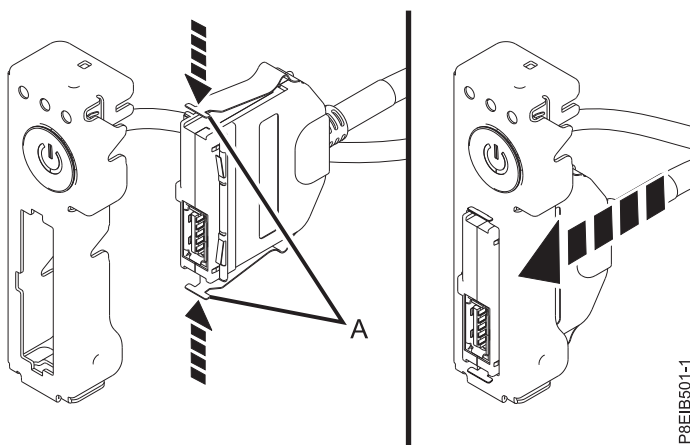

Figure 24. Attaching the front USB cable and connector to the power switch
3. While pressing in the latches (A), connect the front USB cable and connector to the power switch. See Figure 24.